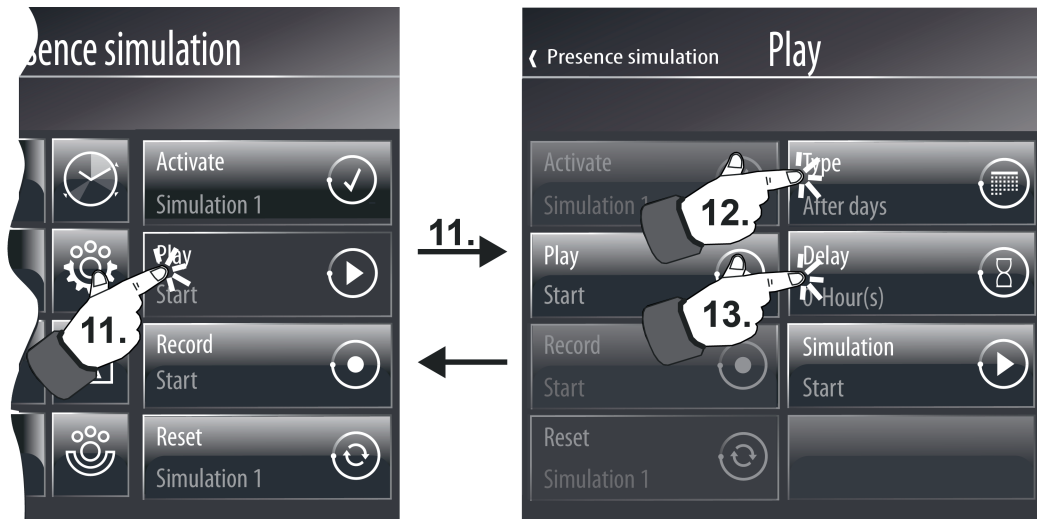

Figure 102: Example of a display page for setting the playback type and playback delay of a simulation (right)
A telegram sequence can be played back when the control surface (B) is pressed (11.). After that, 3 additional operating and display elements appear in the display (figure 102).
- i** The control surface (B) can first be operated when a telegram sequence has been recorded.